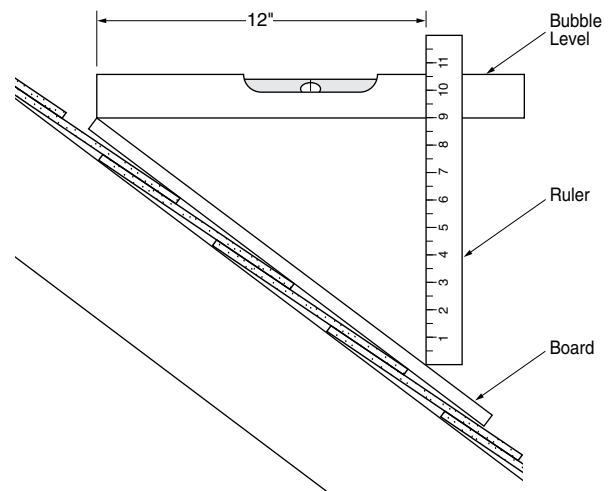

Figure 3-6: 9/12 slope.
**ON THE ROOF:** This method uses simple tools: a flat board, a bubble level and a ruler (*Figure 3-6*).